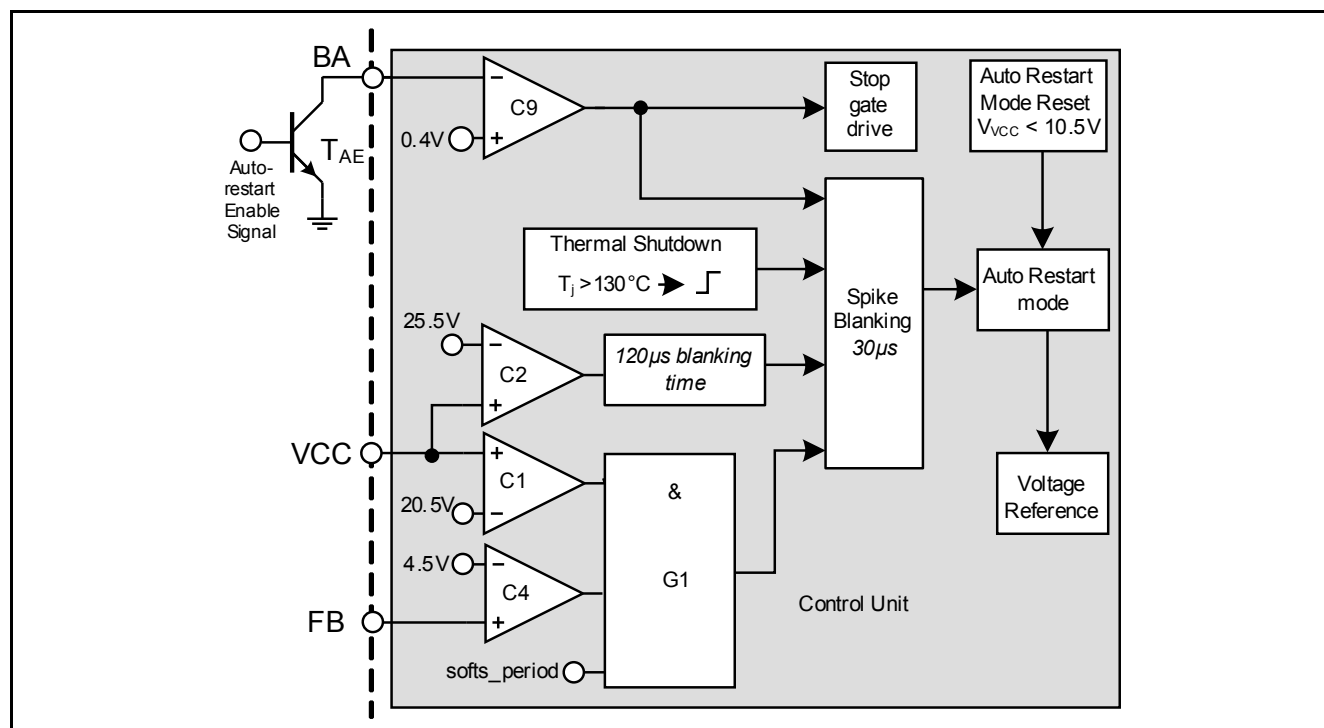

Figure 28 Vcc OVP, OTP, External Protection Enable
Vcc OVP (1) condition is when V_{VCC} voltage is $> 20.5\text{ V}$, V_{FB} voltage is $> 4.5\text{ V}$ and during the soft start period, the IC enters into odd skip auto restart mode. This condition likely happens during start-up on an open loop fault (Figure 28).
Vcc OVP (2) condition is when V_{VCC} voltage is $> 25.5\text{ V}$, the IC enters into odd skip auto restart mode (Figure 28).
The overtemperature protection OTP is sensed inside the controller IC. The Thermal Shutdown block keeps on monitoring the junction temperature of the controller. After detecting a junction temperature higher than $130\text{ }^\circ\text{C}$, the IC will enter into the nonswitch auto restart mode. The IC is also implemented with a $50\text{ }^\circ\text{C}$ hysteresis. This means the IC can only be recovered when the controller junction temperature is dropped $50\text{ }^\circ\text{C}$ lower than the overtemperature trigger point (Figure 28).
external transistor, T_{AE} at the BA pin. When this function is enabled, it will enter into the nonswitch auto restart mode. The gate drive is stopped and there is no switching pulse before it is recovered (**Figure 28**).